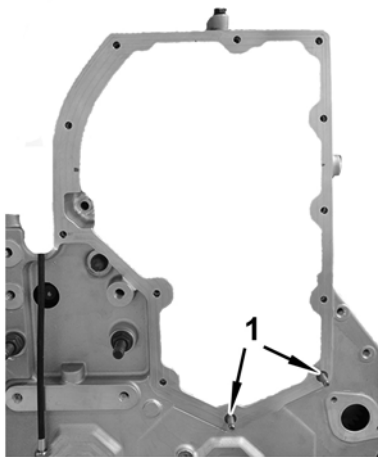

Figure 22 Front Cover Studs
26. Before installing the cam gear cover, remove the two front cover studs and apply Loctite 243 (only to the threads that engage the aluminum front cover, to prevent the possibility of oil leakage) (Figure 22, Item 1).